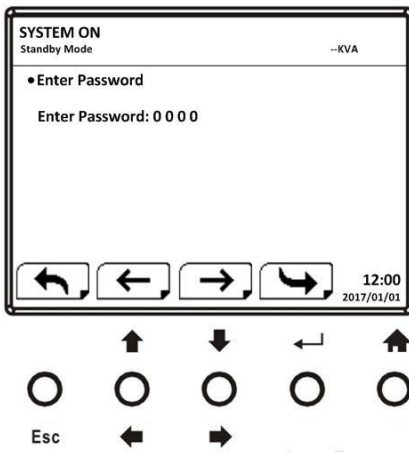
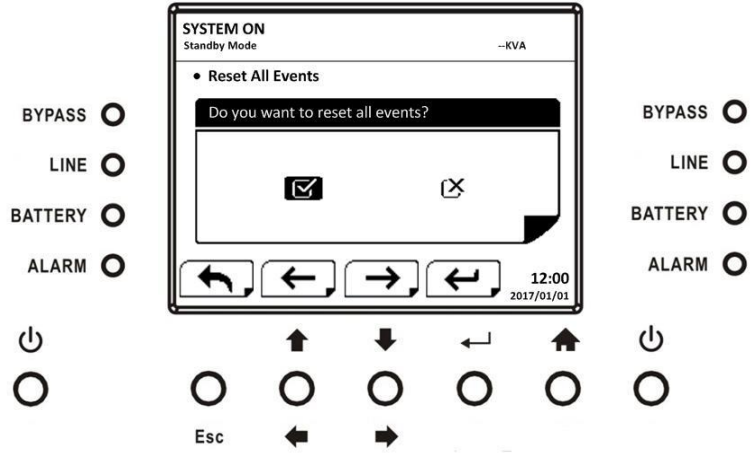

Figure 4-38 Reset All Events screen
Figure 4-39 Reset All Events Confirmation screen
The detailed event information is saved in history events. It can save up to 500 events in history events. When warning occurs, it will display alarm code, alarm time and Module ID. When fault event occurs, it will display alarm code, alarm time and Module ID. (Refer to **Chapter 6** Troubleshooting) In order to record more historical information about the UPS system, the important setting changed (refer to **Table 4-8** Important setting changed), UPS operation mode changes (refer to **Table 4-9** UPS mode change) and control action executes (refer to **Table 4-10** Control execution) will be saved in History Events. Refer to Figure 4-38 for display screen.
The Maintainer password is required to enter Reset All Events screen as shown in Figure 4-38. Then, use "←" or "→" buttons to choose "V" (YES) or "X" (NO). Choose "V" and press "←" button to reset all events or choose "X" to cancel this action as shown in Figure 4-39.